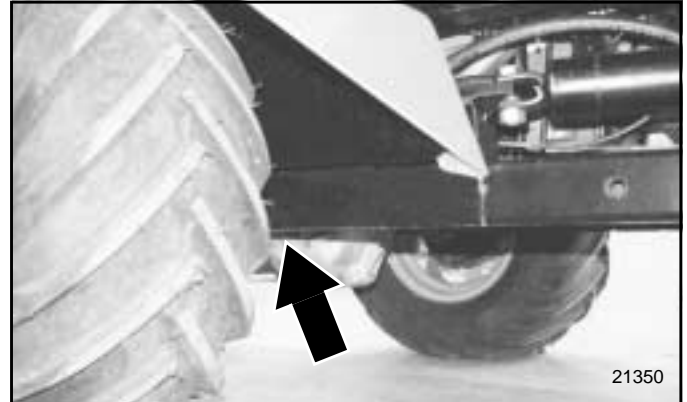

Figure 6-1
- a. **Front tires:** Refer to Figure 6-1. Place jack under the main frame just behind the axle.